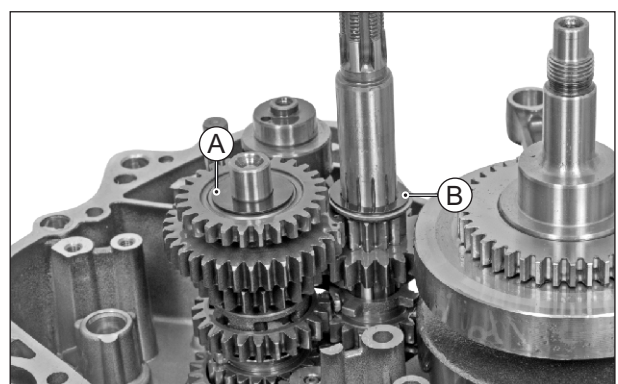

Fig. 3.187
- Assemble the shim (A) on the shaft complete drive. (Fig. 3.187)
- Assemble bearing kick starter driven gear along with shim and thrust washer (B) on the shaft complete counter. (Fig. 3.187)